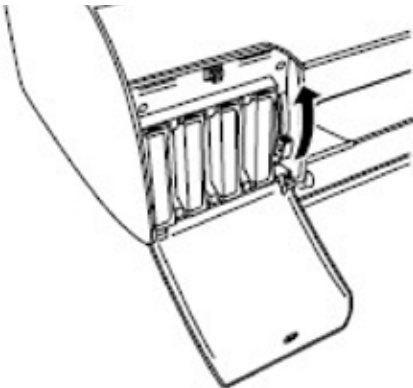
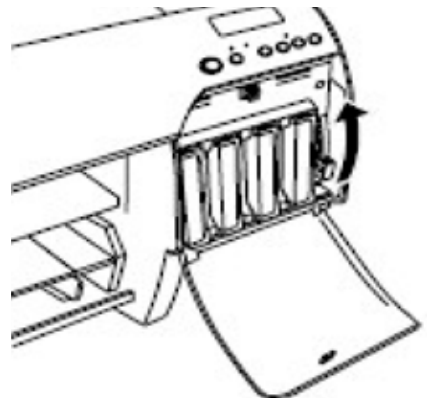

Figure 5
Figure 6
3. Raise the ink lever to the unlocked position. (Fig. 5) The ink lever is located to the right of each ink compartment. (Fig. 6)